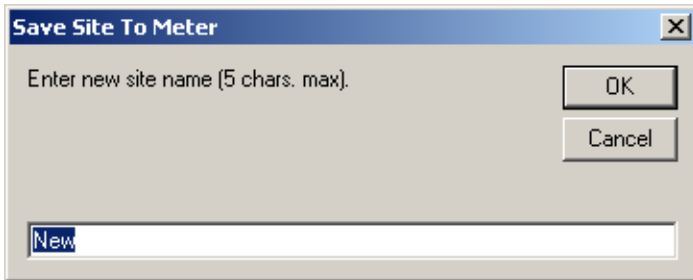

Figure 53: Site name Entry window
2. A window similar to *Figure 53* below opens. Enter the desired name, and click [ok].